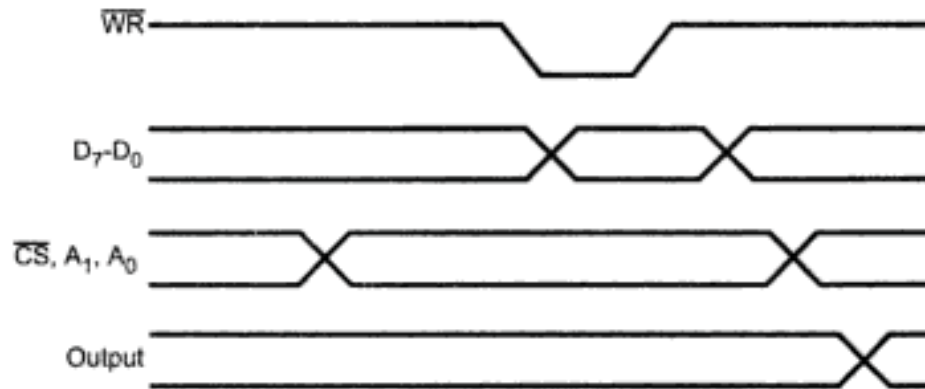

**Fig. 7.6 Timing diagram for mode 0 input mode**
**Input Mode :** Fig. 7.6 shows the timing diagram for mode 0 input mode.